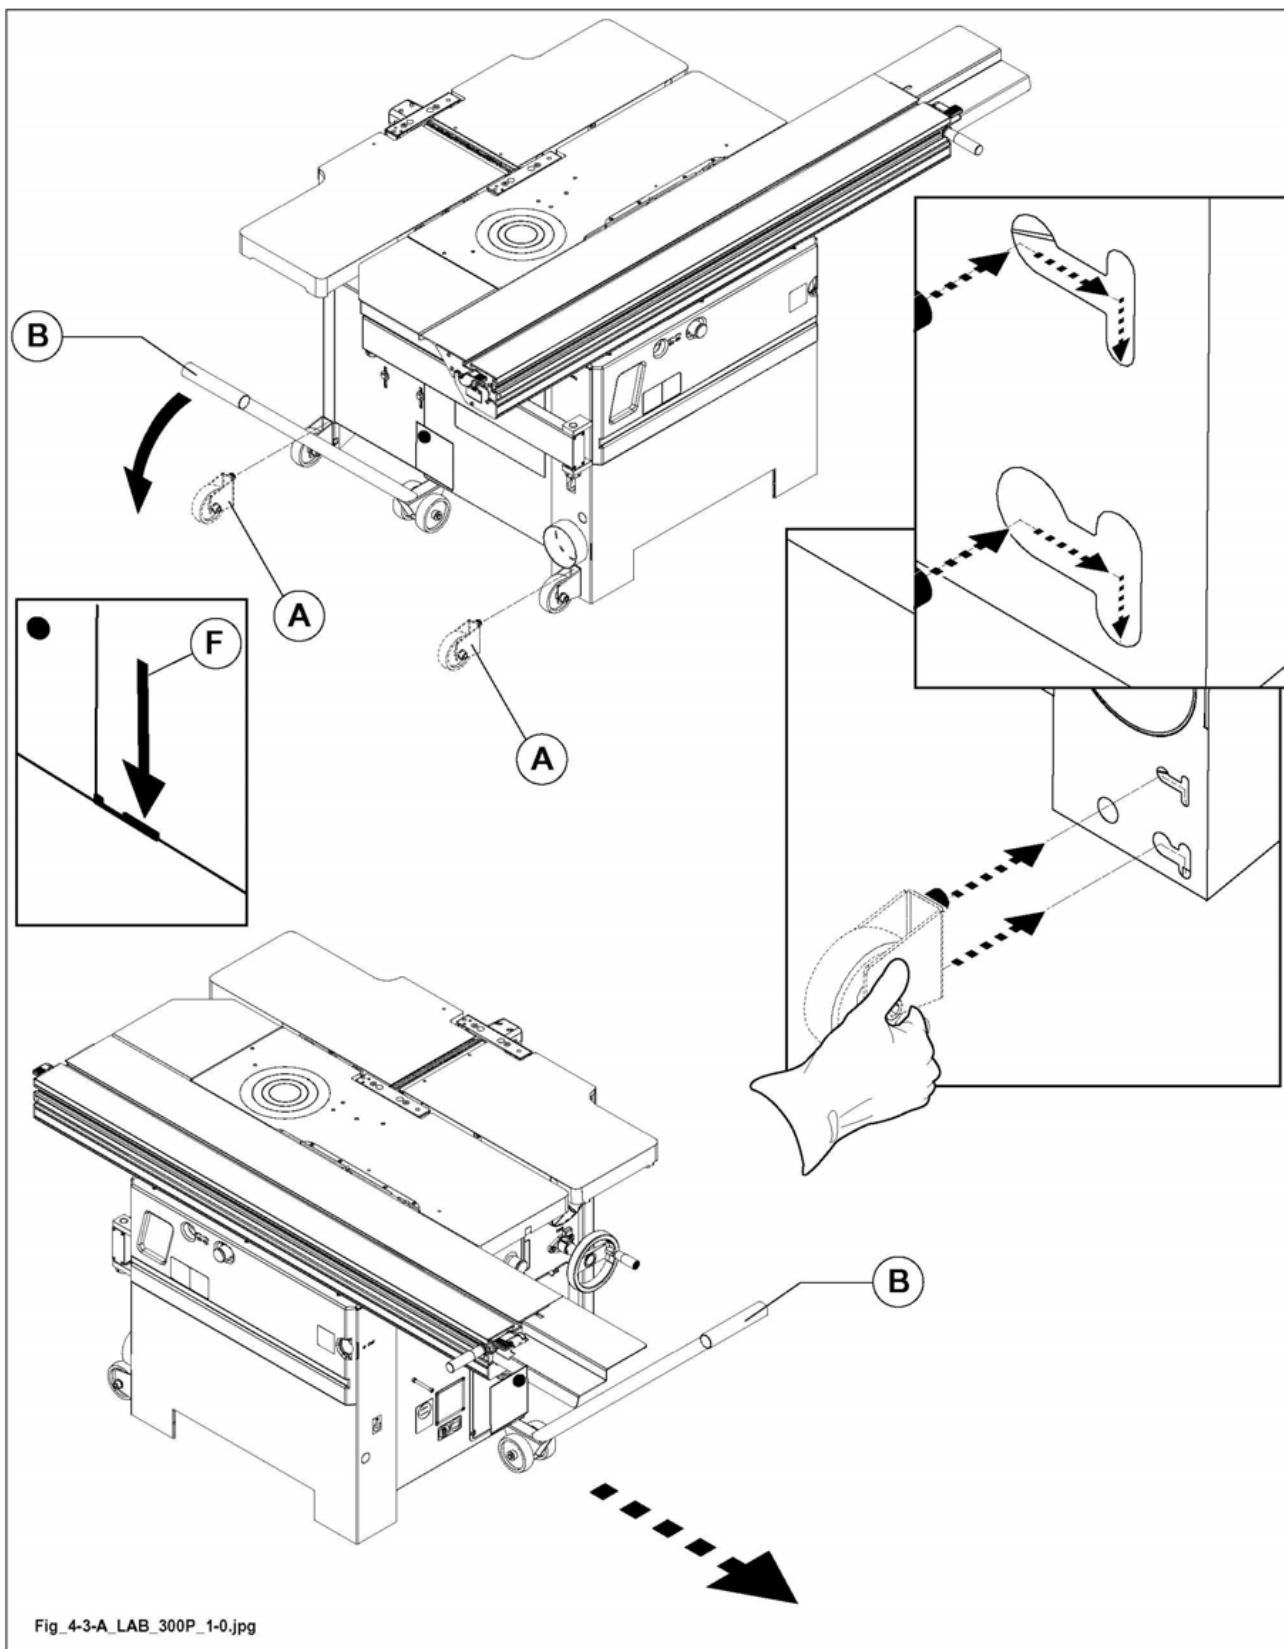

Fig. 4.3-A
- 2 fixed wheels (A fig. 4.3-A).
- 1 movement lever (B fig. 4.3-A).
- 1) Use lever (B fig. 4.3-A) to lift machine base slightly;
- 2) engage head of screw on fixed wheel (A fig. 4.3-A) in base feet hole as indicated in the figure;
- 3) move lever (B fig. 4.3-A) from opposite side of machine, insert lever in relative attachment (it is indicated with the arrow F) and move the machine.
**at the end of the operation, disassemble the moving wheels (A fig. 4.3-A) and fix the machine to the ground (see Par. 4.2);